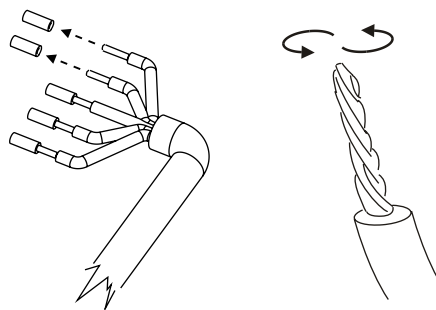

Figure 25-2
**4. Pull off the individually pre-stripped insulation ends.** Twist each end of the wires individually to keep all the wire strands together. [Figure 25-2]